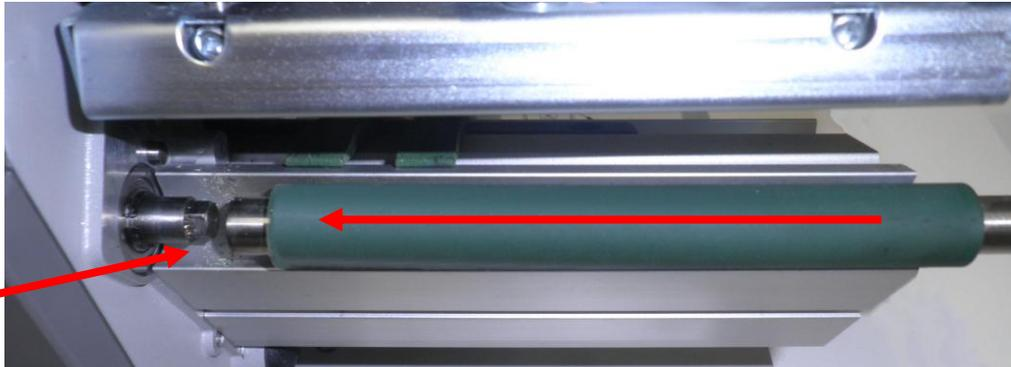

Figure 6 - Drive Roller removal
4.2. Push the drive roller laterally towards from the printer bulkhead ensuring the Hexagonal drive and socket align, see Figure 6.